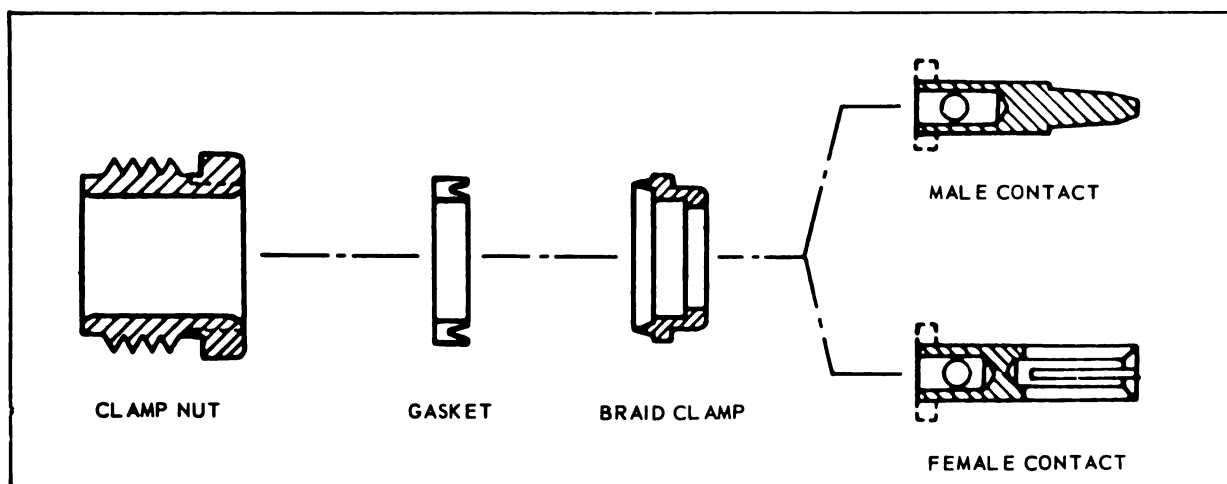

Figure 4-33. TNC Connectors - Exploded View
4-50. TNC CONNECTOR TYPES. There is only one version of TNC connector. It consists of a body assembled to coaxial cable by means of a clamp nut, gasket and braid clamp. See figure 4-33. Table 4-7 lists the more common connectors in the TNC series and shows the coaxial cables associated with each. These connectors do not carry a military number.
c. Disassemble nut, grooved gasket and sleeve clamp from plug or jack body. See figure 4-33.